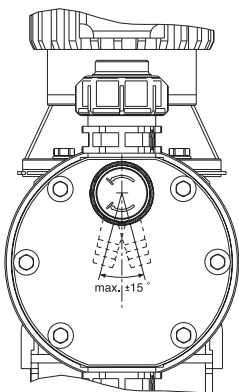

Fig. 1
Pump type: (figures 1+2 = back pressure [bar], figures 3-5 = feed rate [l/h]): 120145* 12 bar; 174 l/h 120190* 12 bar; 228 l/h 120270* 12 bar; 324 l/h 070410 7 bar; 492 l/h 070580 7 bar; 696 l/h 040830 4 bar; 1000 l/h Note: 60 Hz performance data apply for S3Ca pump types (due to internal 60 Hz operation). * for PVDF max. 10 bar
- Pull the red plug for venting the gear unit during initial operation of the Sigma/ 3 metering pump (refer to Fig. 1, item 10)!